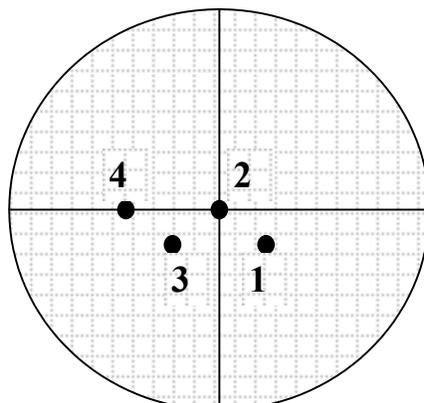

Figure 2
- It should be noted that depending upon the array of the tubes, it is possible to fire above the heads of the gun teams (Figure 2), which is not permitted during training exercises because of safety concerns. The M16 plotting board allows the FDC to determine which guns will fire during the mission. The plotting board is set up with the base gun representing the pivot point. The other three guns are plotted as positioned on the ground. Any value can be assigned to the intermediate quadrants on the board.